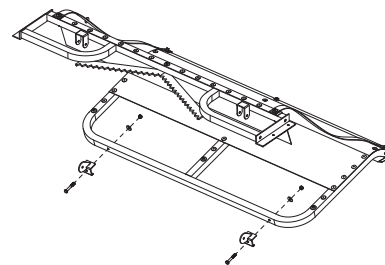

Figure 18
STEP 3: Bolt two (2) hinges to the seat frame with two (2) 1 3/4" bolts, two (2) washers, and two (2) locknuts as shown in Figure 18. Make certain to place a washer under each of the locknuts. From this point in the assembly, until the end, leave bolts loose until assembly is complete. This practice will help ensure the assembly goes together easily.